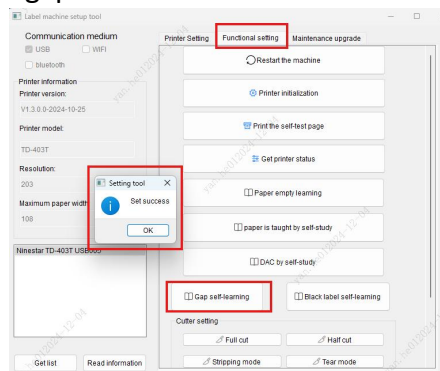

Fig.55
(8)Gap Self-Learning: The printer learns and records the current paper gap status. Select the "Functional Settings" section and click "Gap Self-Learning" to pop up the "Set Success" prompt box as shown in Figure 55.